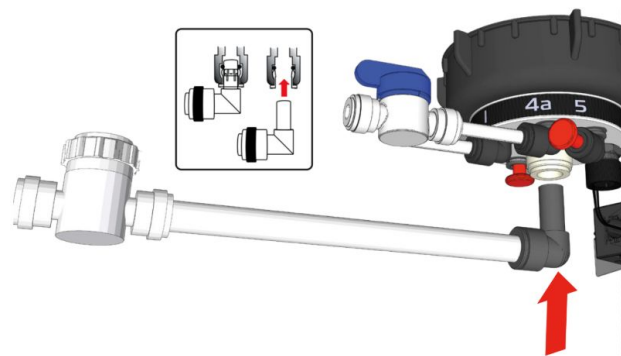

Fig 4
2. CUT a clean square end on an 15mm OD semi rigid tube, long enough to reach the Reservoir High Flow Outlet (Fig 4) OR use an Speedfit X plain stem WFLX51.